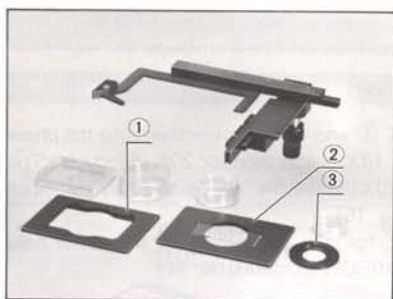

Fig. 12
- 1) A Terasaki holder ① is optionally available to hold a Terasaki plate or a 65mm-dia. petri dish; while an optional slide glass holder ② can be used to hold a 1" x 3" slide glass or a 54mm-dia. petri dish on the stage. (Fig. 12)
- 2) A 96-well micro-titre plate or a 24-well micro-titre plate can be directly mounted on the stage. (Fig. 12)
★ The 35 mm-dia. petri dish holder ③ provided is used to prevent a specimen vessel from falling through the opening in the plain stage. (Fig. 12)